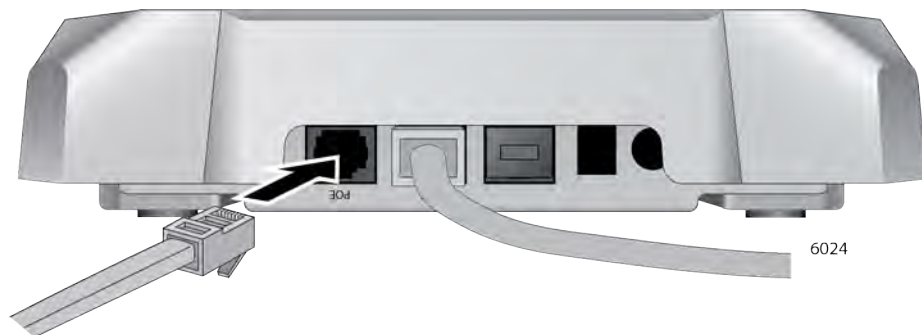

Figure 24. Connecting the Ethernet Cable to the LAN2 Port
- b. Connect a second Ethernet cable into the LAN2 port. Refer to Figure 24.